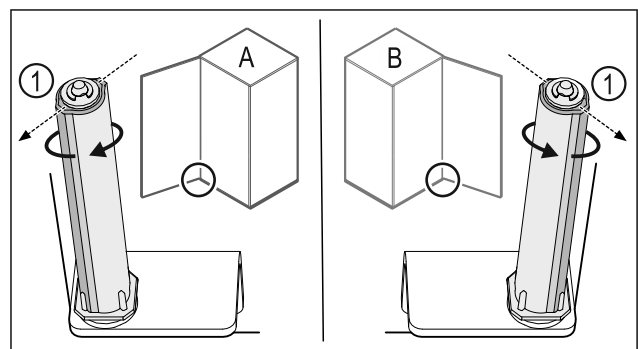

Fig. 37 Left-hinged (A) / Right-hinged (B)
- ▶ Turn the closing system against the resistance until the bar of the closing system Fig. 37 (1) points outwards.